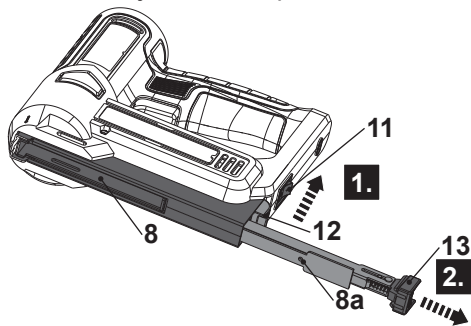
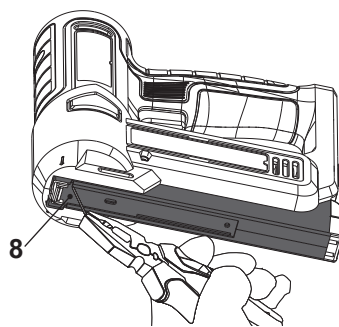

Fig. 11
Fig. 12
2. Lift up the magazine release button (12) (Fig. 11, step 1), and the magazine slider (8a) will automatically pop up.
3. Hold the pull lever (13) and pull the magazine slider (8a) out of the back of the stapler until the stop (Fig. 11, step 2).
4. Remove all staples in the magazine (8).
5. For the jammed staple, remove it with a suitable plier (not supplied) (Fig. 12).